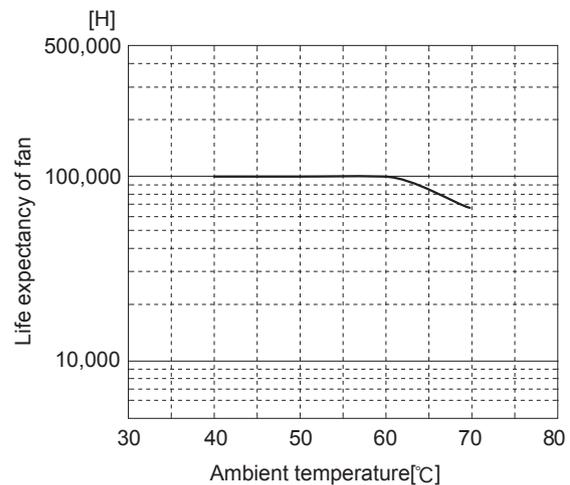
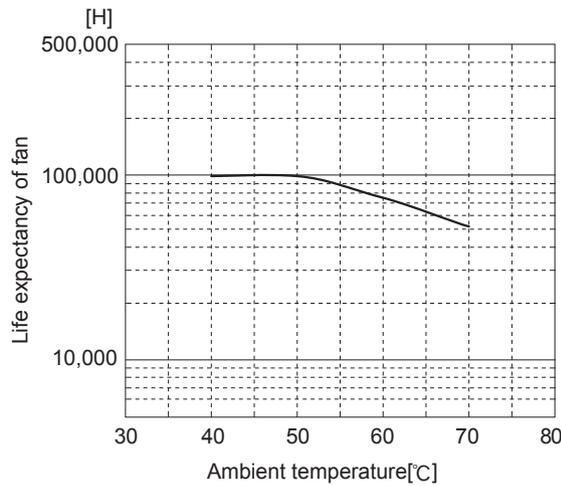

Fig.5.1 Life expectancy of fan (PDA300F)
Fig.5.2 Life expectancy of fan (PDA600F)
■ The estimated lifespan of the fans (R(t) = 90%) varies depending on use conditions as show in Fig.5.1, Fig.5.2.